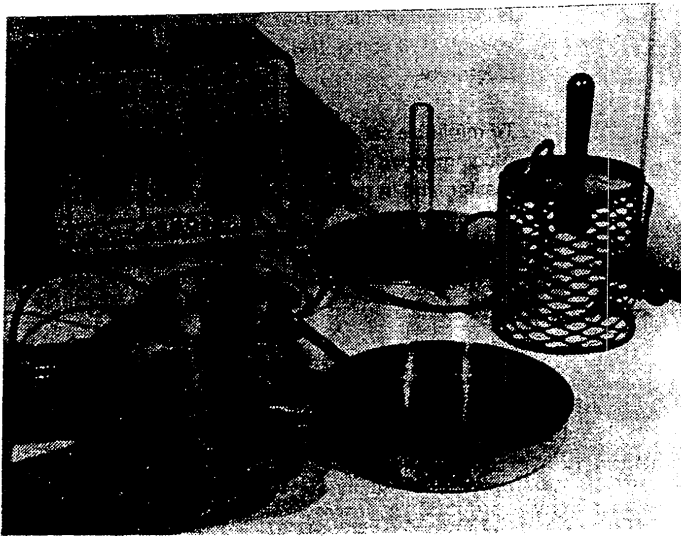

Figure 6. Heat from an Electric Spark Can Cause a Fire.
6. Place a very small amount (not more than 2 ml) of gasoline in the pan and strike the arc over the pan. The gasoline vapors should readily ignite (Figure 6). To achieve the proper vapor-air mixture it may be necessary to blow across the surface of the pan. Be sure to remove the probes from pan area when blowing.